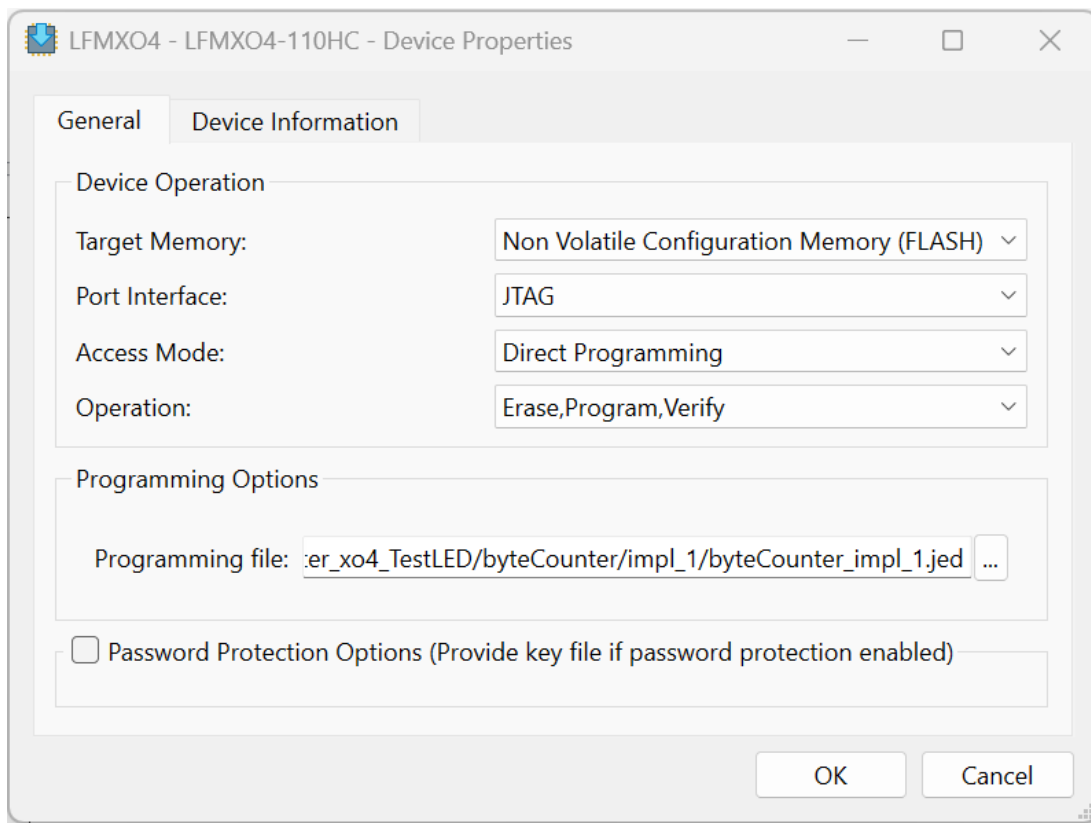

Figure 3.4. Bit file programming
5. Double-click the **Operation** field, then select the appropriate programming mode. For example, select **Non-Volatile Configuration Memory (FLASH)**. See Figure 3.4.